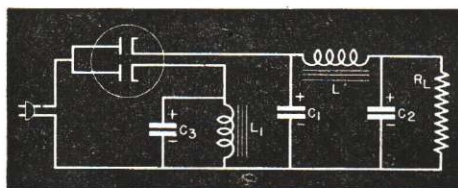
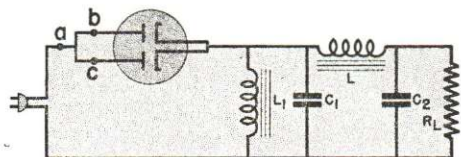

FIG. 2. The speaker field is energized from a separate diode here.
FIG. 3. The diode elements are in parallel, so have a greater current safety factor.
A circuit which does this is shown in Fig. 2. Here, a dual diode tube is employed. (Separate diodes could be used, if desired.) One diode is used as a half-wave rectifier for the load R_L ; the other acts as a rectifier to supply the speaker field, marked L_1 , which acts as the load for this tube section. The filter condenser C_3 provides sufficient filtering for the field. The other filter C_1-L-C_2 is a standard condenser-input filter, used to deliver pure d.c. to the load R_L .
► As you know, the input filter condenser draws a rather high current from the rectifier tube until the condenser is fully charged. As a result, in the circuit shown in Fig. 2, each of the rectifier tube sections undergoes considerable strain when the circuit is first turned on. Fig. 3 shows how the circuit can be changed to relieve some of this strain and save one filter condenser at the same time.
Here the two cathodes of the rectifier tube sections are tied together, as are the plates. This lets us use the current capacity of the two diodes (which are now in parallel) to charge condenser C_1 , thus reducing the current each tube section must carry. The speaker field L_1 , in parallel with C_1 , is connected directly across the output of the rectifier. Enough filtering is produced by C_1 for the field supply. C_1 thus takes the place of condenser C_3 in Fig. 2, and at the same time acts as the input filter condenser for the filter C_1-L-C_2 .
Tube Protection. As you already know, a large input condenser draws a high peak current from the rectifier tube. When a transformer is used, the resistance of the high-voltage winding limits the current through the rectifier tube to some extent; but the power line current in Fig. 3 is limited only by the fuses in the house wiring, which may have ratings as high as 25 amperes.
were ruined by excess peak current* before receiver manufacturers hit upon the idea of placing a resistor in series with the plates of the tubes. A single resistor of from 20 to 30 ohms may be placed in series with both plates at point *a* of Fig. 3, or a 50-ohm resistor may be placed in series with each plate at points *b* and *c*.